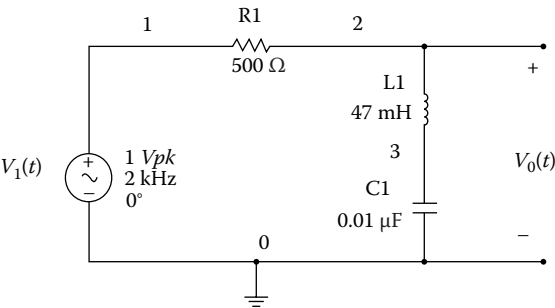

FIGURE P4.10
Problem 4.10 For the circuit shown in Figure P4.10, (1) use the Network Analyzer to plot the magnitude and phase characteristics. (2) Determine the resonant frequency and bandwidth of the circuit.